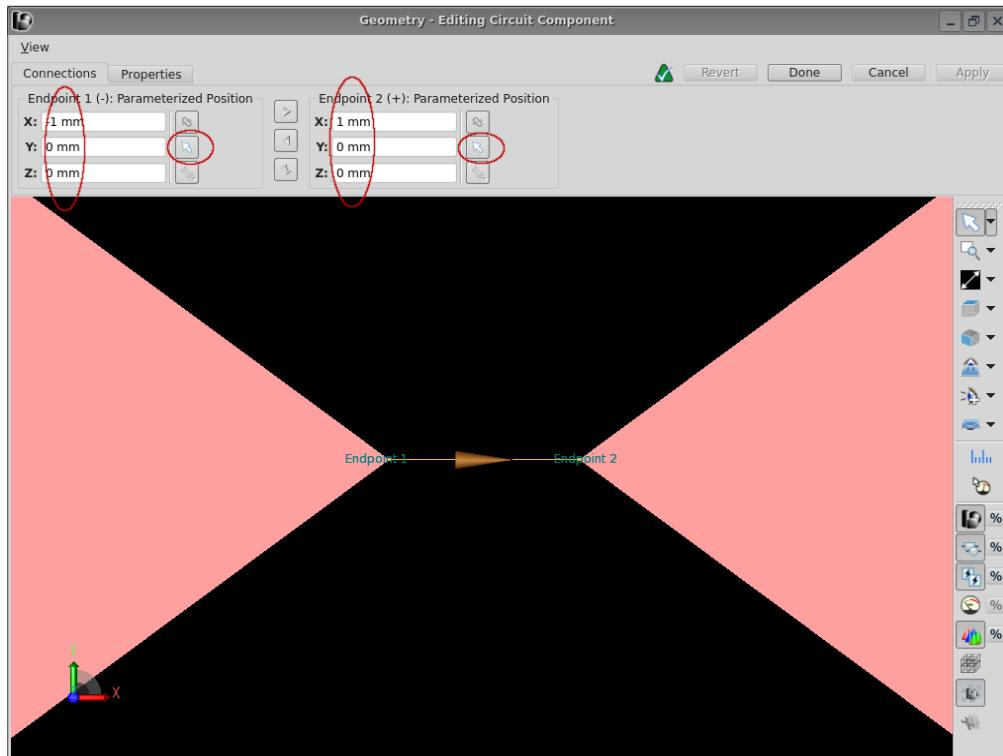

Figure 2.6: Feed Attached to the Bow Tie
- Right-click on the CIRCUIT COMPONENTS branch of the PROJECT TREE and select “New Circuit Component with: New Feed Definition”. Attach the component to the near corners of the two halves of the bowtie, as shown in figure 2.6. If the coordinates of figure 2.2 were used for the antenna, then the  $x$ ,  $y$ , and  $z$  values will be as shown in figure 2.6. The values may simply be typed into their text boxes, or the arrow keys can be used to enable mouse selection of each point.